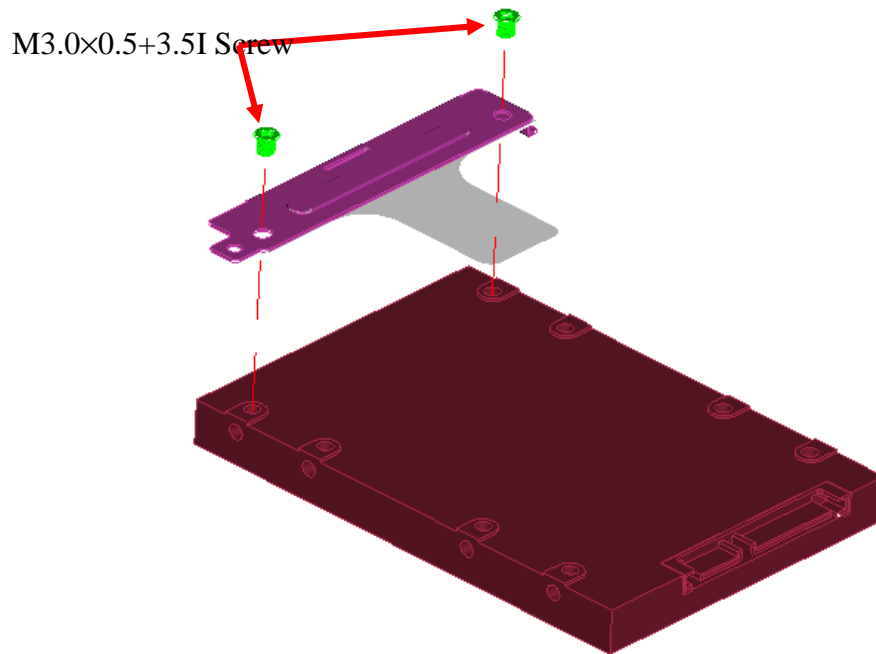

Figure 4-5-2 Secure the HDD drive
5. Disconnect the HDD bracket from the HDD by loosening the screws(See Figure 4-5-2)
6. Attach the HDD bracket to an HDD and secure it with the following screws.(See Figure 4-5-2)